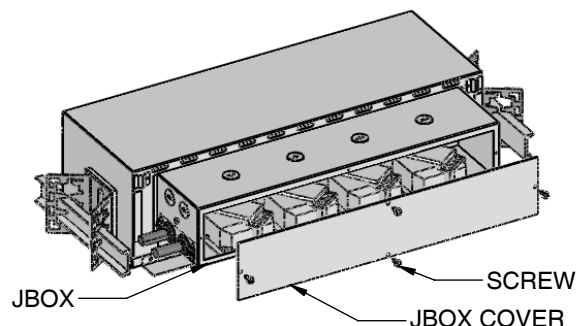

Figure 3
7. Remove the JBOX COVER from the JBOX by removing the four SCREWS. Connect supply lead wires to junction box lead wires in accordance with your local electrical code(s) or N.E.C. Replace JBOX COVER onto JBOX, securing with SCREWS. See Fig 3.